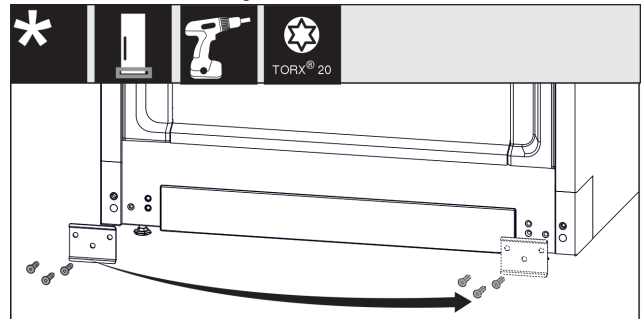

Fig. 14
- ▶ Unscrew the metal plate, move it to the other side and screw it on again. Fig. 14 (1)